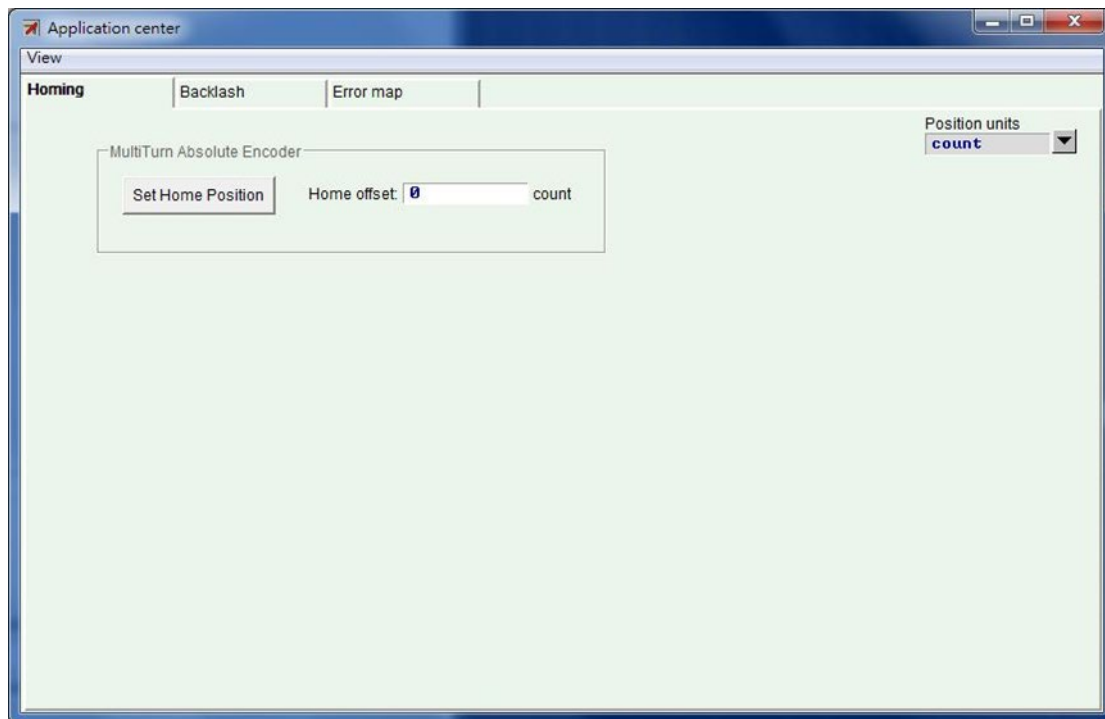
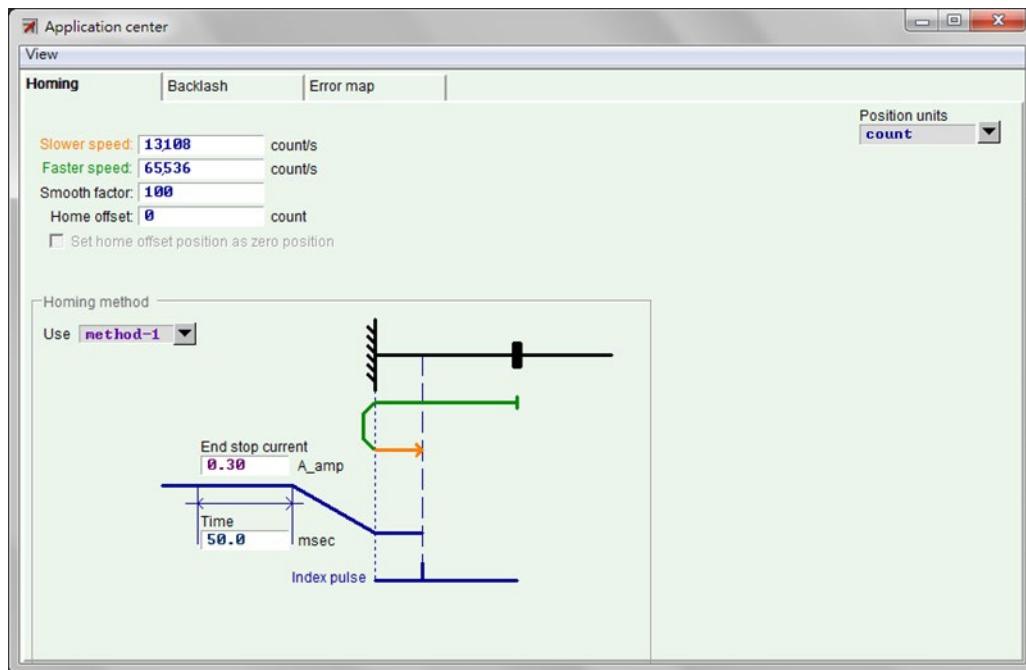

Figure5.7.3.1
Figure5.7.4.1
- (1) The emulated encoder output is temporarily disabled during saving. Therefore, if the host controller is connected to the emulated encoder output, the received position information may be lost. Please pay attention to this.
- (2) Compensation values of “Error map” will not be saved via this function. Perform the “Save” procedure in the “Error map” window to save compensation values.
In the “Tools” menu of HMI main window, select “Set parameters to factory default” to restore drive's parameters to factory settings, as shown in figure 5.7.3.1. Then, the window of figure 5.7.4.1 (for versions of Lightening 0.180 - 0.185A) appears to ask if users want to set the drive to factory default. If the error stable is needed to be cleared at the same time, check the option of “Clear error table in flash then reset drive”, and click the “Yes” button to automatically execute this function. When the option of “Clear error table in flash then reset drive” is checked, the program will display the “Notice” window to inform users that it will save default settings to the drive and then reset the drive before clearing “Error map”, as shown in figure 5.8.2.1. If the “Yes (Y)” button is clicked, the program executes the chosen function in the window of “Set parameters to factory default”. However, if the “No (N)” button is clicked, it will go back to the window of “Set parameters to factory default” to let users reselect functions needed to execute. After parameters are restored to factory settings, the drive will automatically execute the reset function.